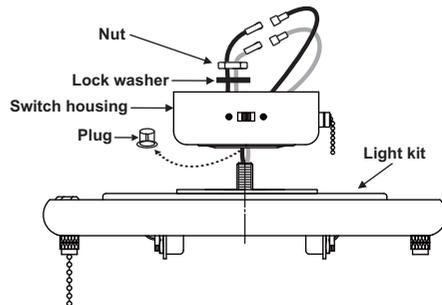

Figure 18
1. Remove and discard the plug from the switch housing. Attach the light kit to the switch housing by feeding the light kit wires (black and white) through the hole of switch housing and then screw it onto the switch housing by nut & lock washer. Be sure it is tight enough to prevent light kit from vibrating loose. (Fig. 18)